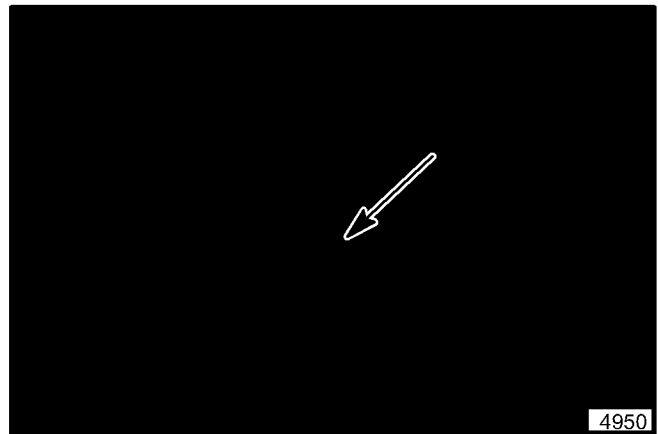

Figure 28. Cable Adjustment Nuts
2. After the hook has been adjusted. Loosen the two jam nuts at the top of the cable (see figure 28). Adjust the bottom nut to take up any slack in the cable. Be